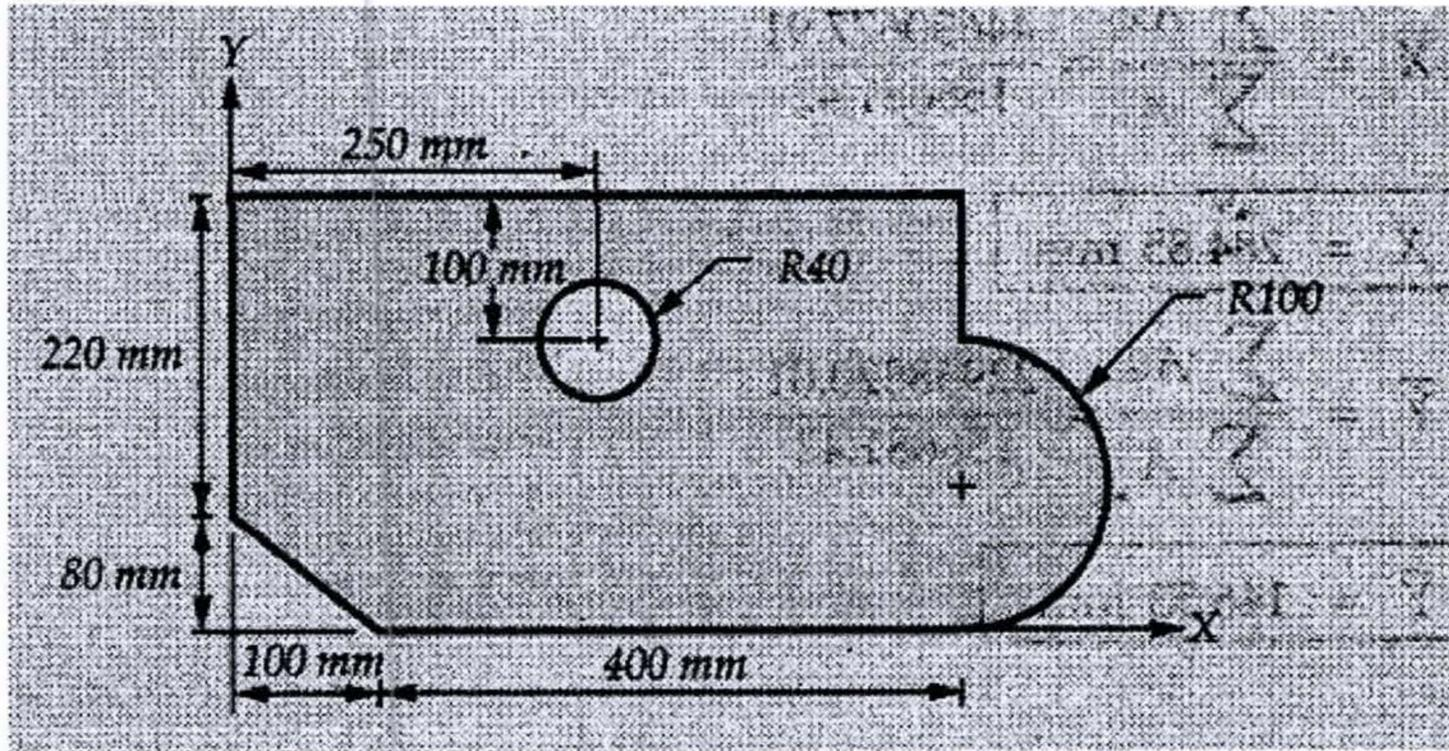

Fig. 1
a) Locate the centroid of the plane area shown in Fig. 1